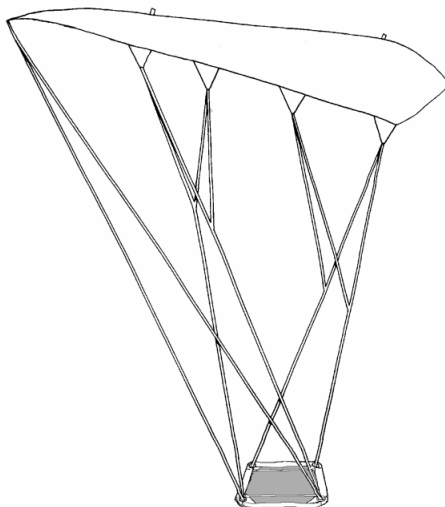

Figure 1.
Step 1.) Start with the Flight Concepts Main canopy laying on its left side. (See Figure 1.) The harness must be placed facing down, with the top toward the canopy.